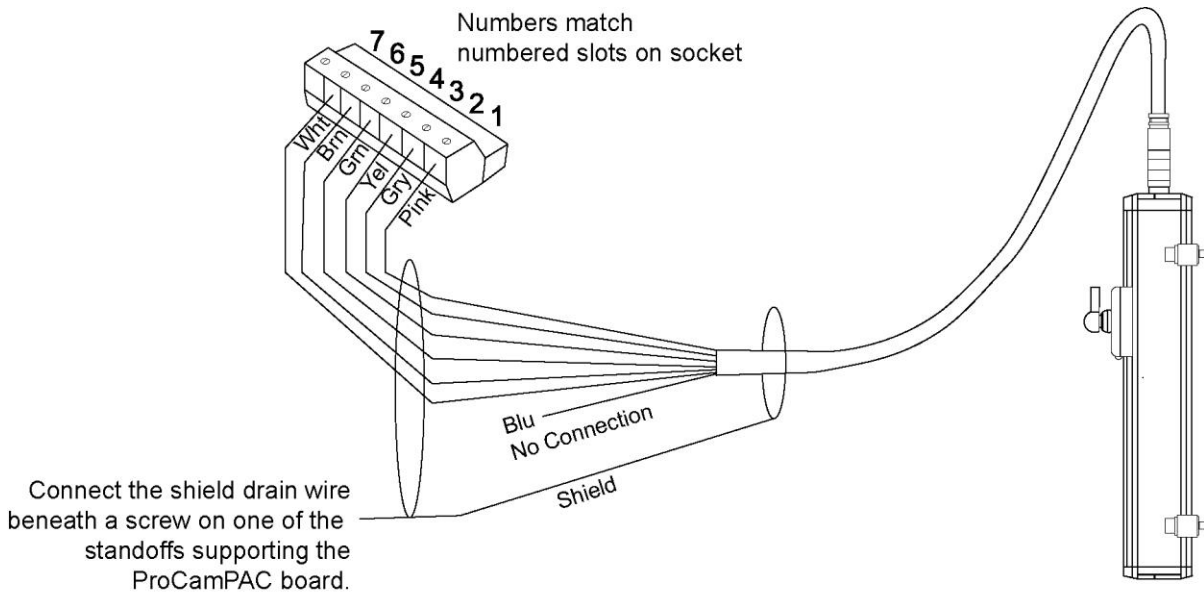

Figure 2-9. MTS Linear Transducer Pinout
4. Unplug the connector from TB402, and attach transducer wires as shown in Figure 2-9, Table 2-1, and Figure 1. or Figure 2. *SmartPAC Pro Servo Press ProCamPAC 15 MTS Transducer Wiring Diagram* at the end of the manual.
You need two wires to connect to the input check circuit. These wires are connected in parallel with one of the coils on the Dual Safety Valve that controls the clutch/brake. When the clutch is engaged, 12–250 VAC or VDC (50-60 Hz) must be present across terminals A and B, as shown in Figure 2-9. The connection can be made inside the press control where the circuits to the valve relays are connected. Refer to your press control manual and electrical prints. It does not matter which wire goes to terminal A and which to terminal B.